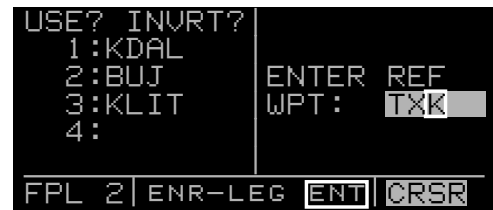

Figure 5-88
4. Use the right inner and outer knobs to enter the identifier of the desired waypoint (figure 5-88).